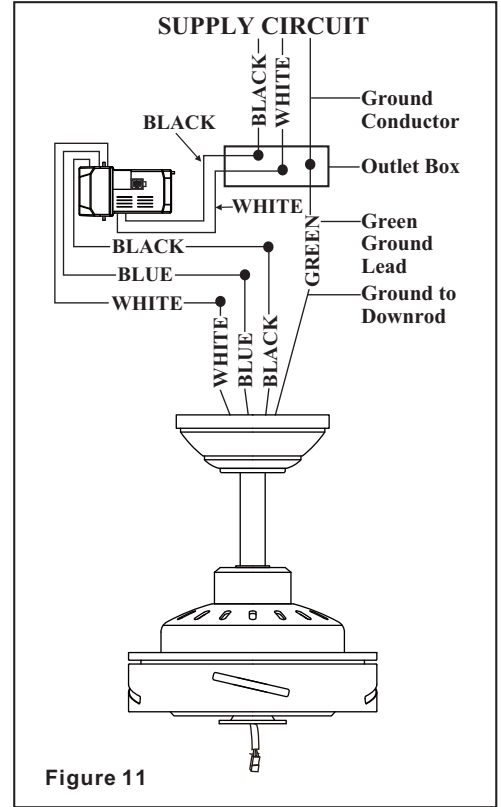

Figure 11
- (Figure 11) Motor to receiver electrical connections: Connect the black wire from the fan to black wire marked "TO MOTOR L". Connect the white wire from the fan to the white wire marked "TO MOTOR N" from the receiver. Connect the blue wire from the fan to the blue wire marked "For Light" from the receiver. Secure the wire connections with the plastic wire connecting nuts provided.
- (Figure 11) Receiver to house supply wires electrical connections: Connect the black (hot) wire from the ceiling to the black wire marked "AC in L" from the receiver. Connect the white (neutral) wire from the ceiling to the white wire marked "AC in N" from the receiver. Secure the wire connections with the plastic wire connecting nuts provided.
- (Figure 11) If your outlet box has a ground wire (green or bare copper) connect it to the fan ground wires; otherwise connect the hanging bracket ground wire to the mounting bracket. Secure the wire connection with a plastic nut provided. After connecting the wires spread them apart so that the green and white wires are on one side of the outlet box and black and blue wires are on the other side. Carefully tuck the wire connections up into the outlet box.
**Step 1.** Insert the blade through the slot in the housing. Align the holes in the blade and the fan motor assembly and secure with the screw and fiber washer. (Fig. 11)